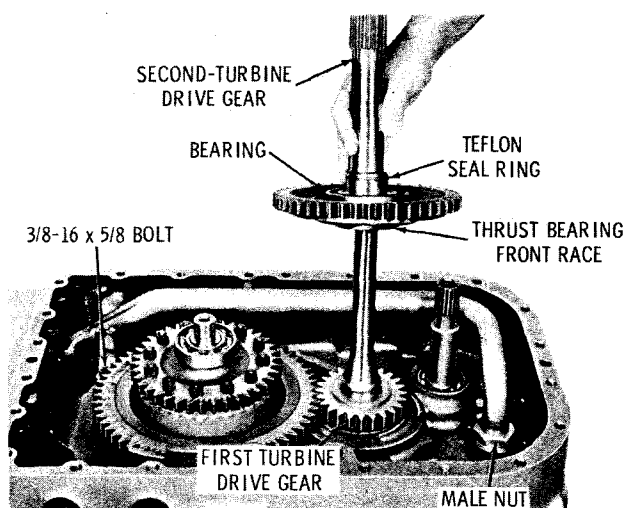

Fig. 7-33. Installing second-turbine drive gear
(6) If the ball bearing was removed from the second-turbine drive gear, install a new bearing (fig. 7-33). Install the step-joint sealring into its groove near the bearing. Install the front thrust bearing race, flange first, onto the bottom (rear) of the drive gear. Use oil-soluble grease to retain the bearing race on the drive gear. Install the second-turbine drive gear and assembled parts onto the first-turbine drive gear.